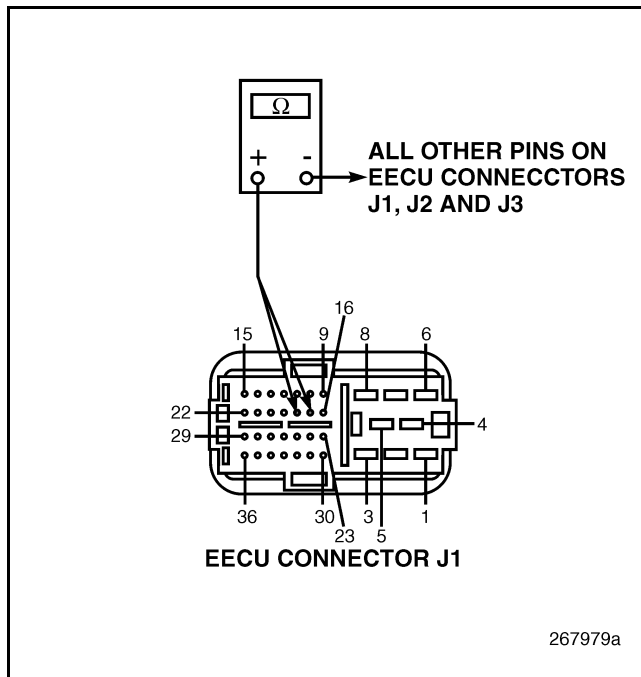

Figure 635
5. Check for continuity between EECU connector J1 pins 17 and 18 versus all other pins on EECU connectors J1, J2 and J3 (see Figure 635).